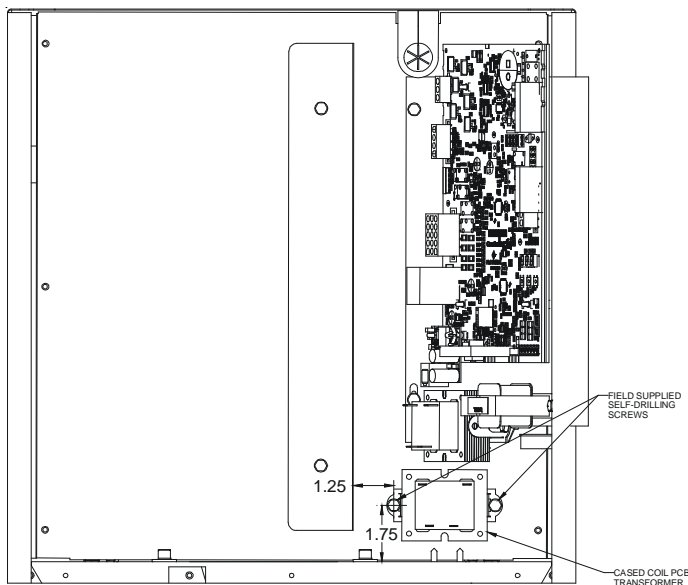

Figure 21
The PCB transformer can be assembled to the furnace partition plate. Fasten the PCB transformer using (2) field supplied self-drilling screws. Locate the transformer to the partition plate to the recommended location. See Figure 21. The transformer should be parallel to the edge of the heat shield. Self-drilling screws should be no longer than 0.75" to prevent interference with the blower housing.